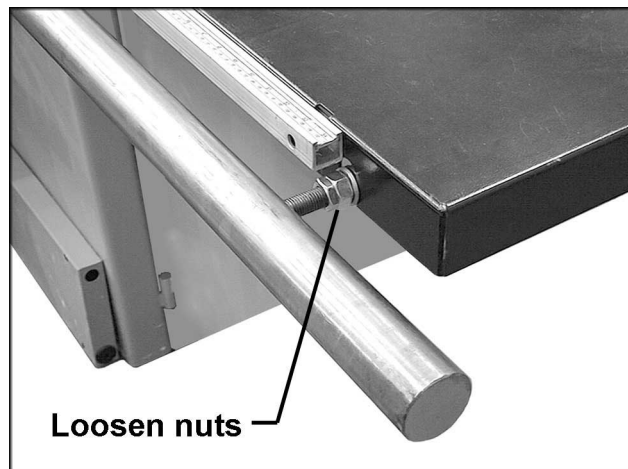

FIGURE 38
1. Loosen the nuts on the outside (third) bolt holding the guide bar on which the rip fence slides. See Figure 38.